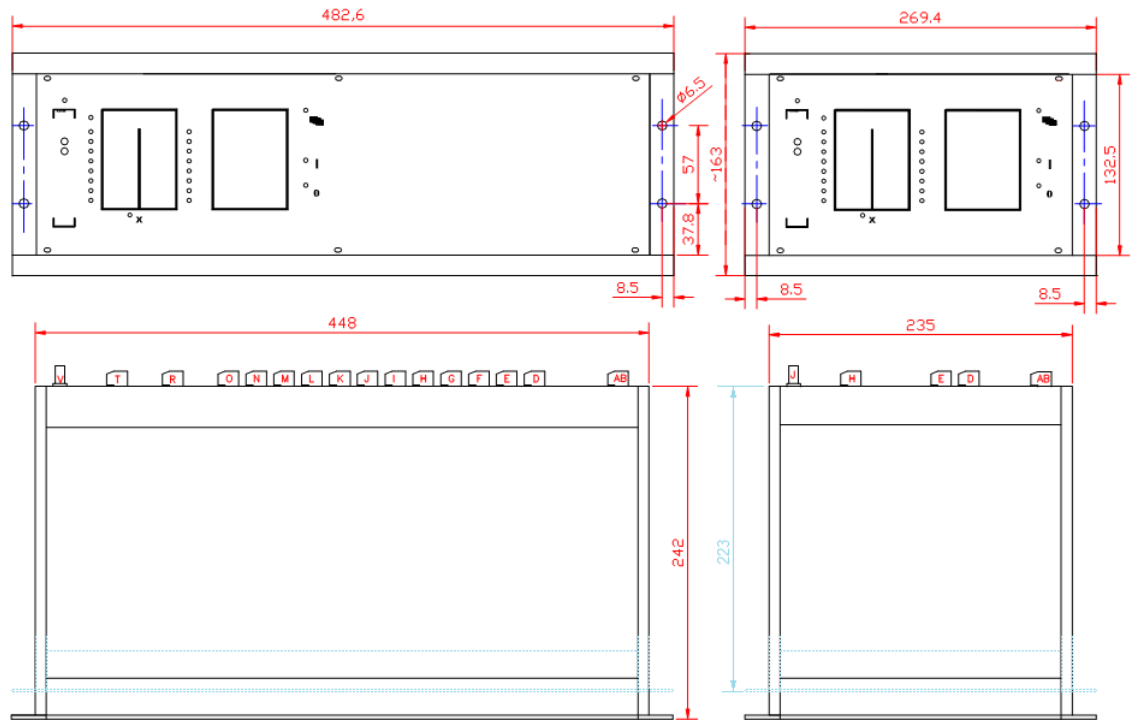

Figure 22-1 Dimensions for flush mounting of the previous 84HP and 42HP single rack, including the new (shorter) rack dimensions as well.
*The mounting methods described in Chapter 21 are valid for the previous racks as well, keeping in mind that the depth of the device is 19 mm bigger than that of the drawings. As an example, see the previous drawing of the flush mounting for 42HP and 84HP devices in Figure 22-1. As a comparison, the new, shorter rack is also drawn in light blue.*